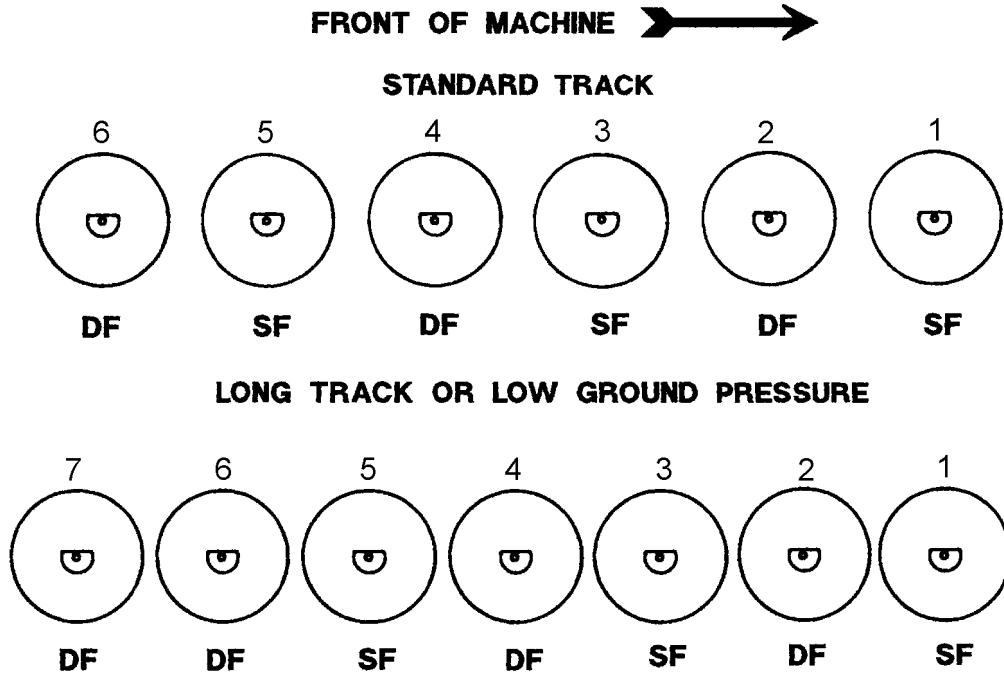

Fig. 14.30. Track Roller Arrangement
Rollers have single or double flanges, and they are positioned in the track frame as shown in Fig. 14.30.
30. ARRANGEMENT OF TRACK ROLLERS (Refer to Fig. 14.30)